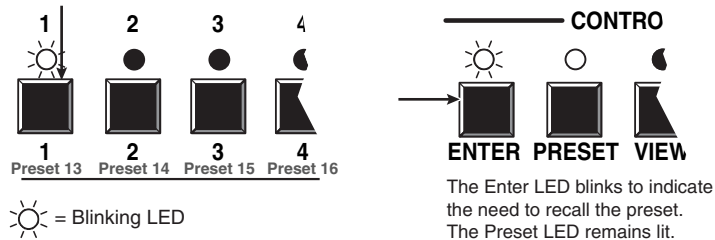

Figure 3-40 — Select the preset
- Press and release the Output 1 button (figure 3-40).